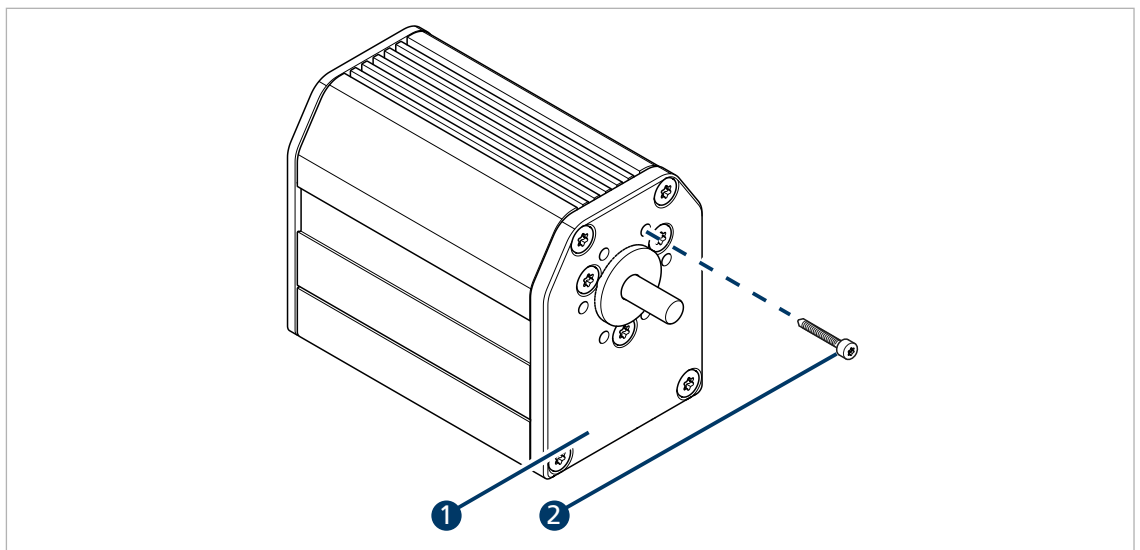

Fig. 7: Installation at the faceplate
- ▶ Secure the Motion Control system (1) with screws (2) using the tapped holes on the cover plate as shown in Fig. 7.